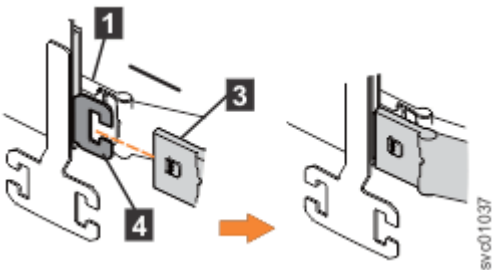

Figure 44. Install the outer connector of the upper CMA to the outer member of the support rail
3. Install the outer connector of the upper CMA assembly (3) to the outer member of the left support rail (4), as shown in Figure 44 on page 58.